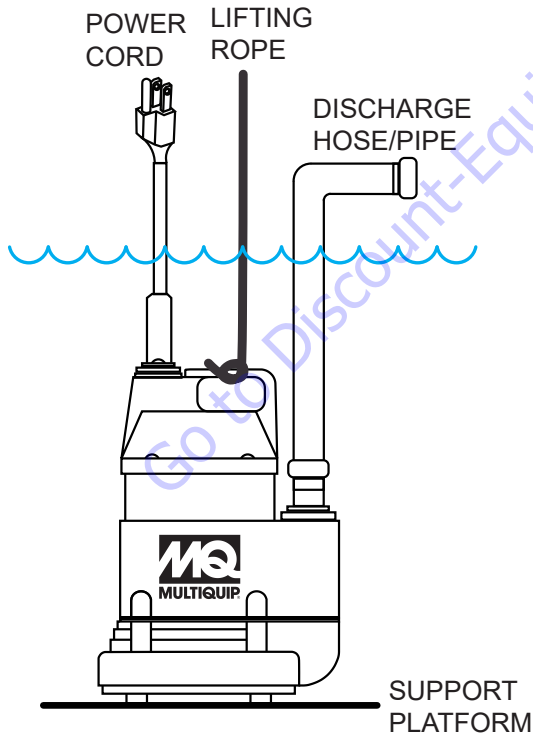
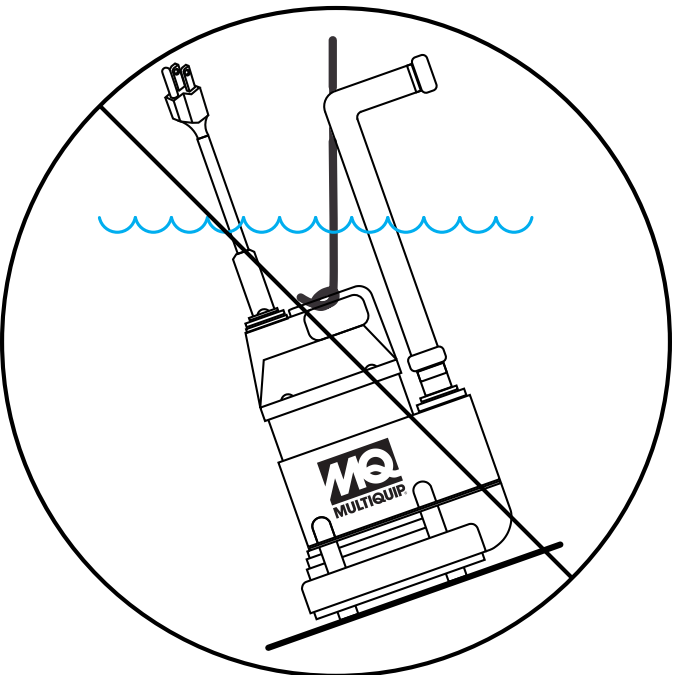

Figure 4. Submersible Pump Upright Position (Correct)
Figure 5. Submersible Pump Tilted Position (Incorrect)
2. The pump should be installed in a free standing (upright) position. See Figure 4 and Figure 5.